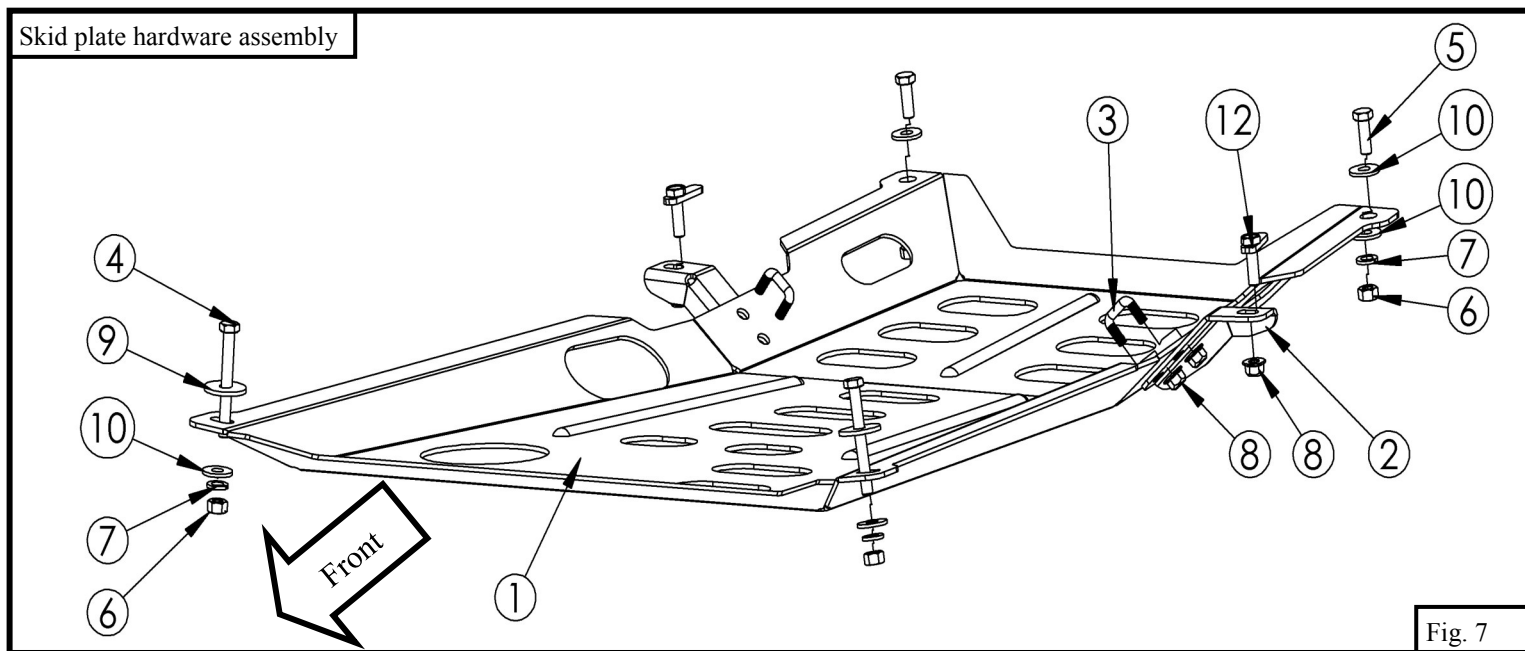

Fig. 7
9. Refer to **Figure 7** for a picture showing the hardware used to mount the skid plate onto the vehicle.